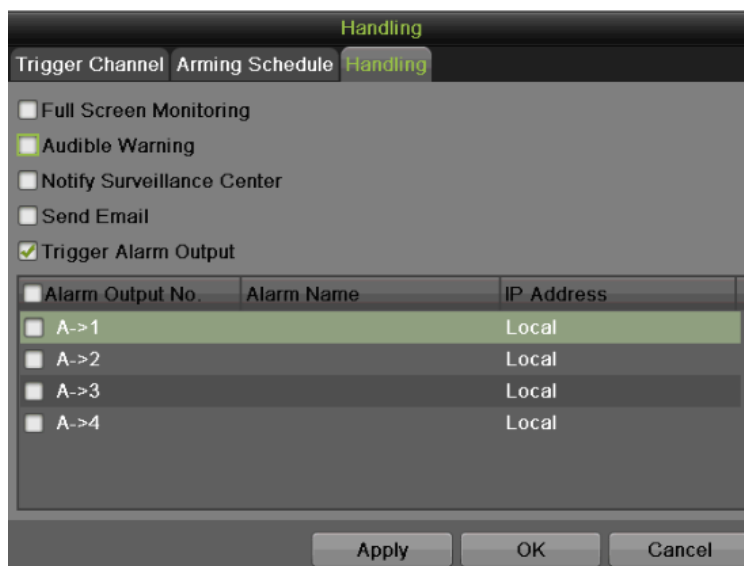

Figure 119 Trigger Alarm Output Settings Menu
- **Trigger Alarm Output:** DVR will trigger alarm output when motion is detected. When you check the Trigger Alarm Output checkbox, there will display a choose box to select Alarm Output No., as shown in Figure 119.